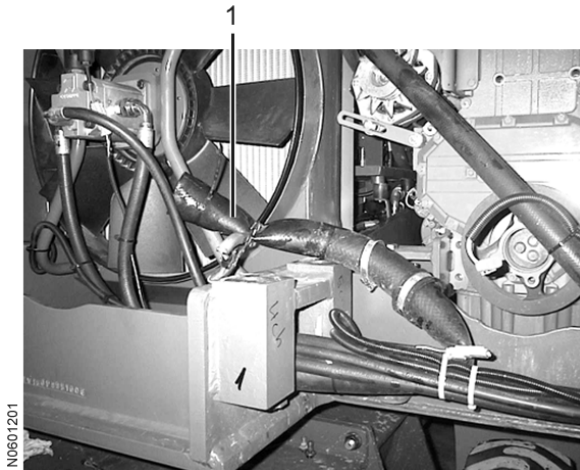

Figure 12
20. Pinch the hose **1** and place it according to Fig. 12.